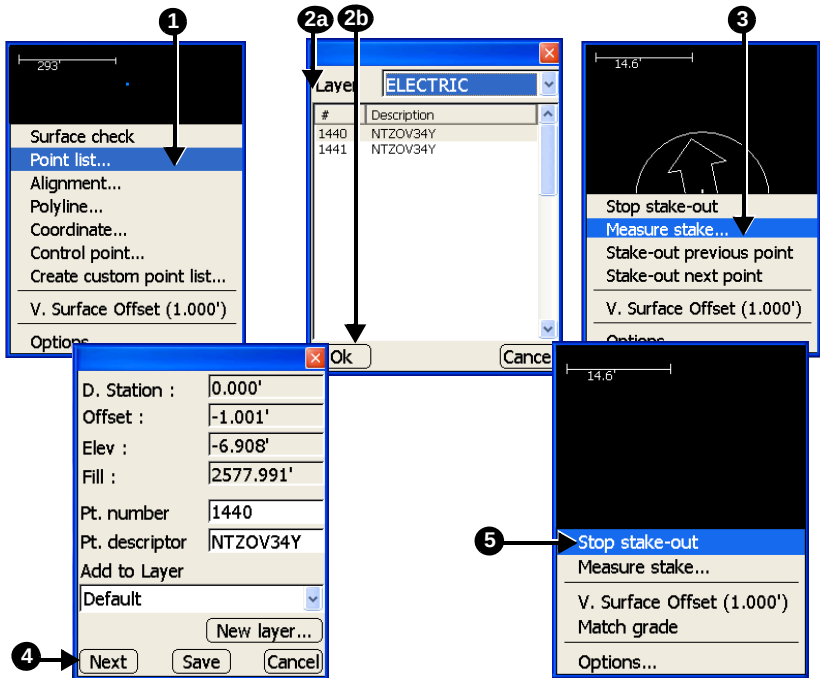

Figure A-28. Stakeout Point
4. To stakeout the next point in the list, press **Next** (Figure A-28 on page A-21).
5. To stop the stakeout, press **Ok** and tap **Survey** ► **Stakeout** ► **Stop stake-out** (Figure A-28).